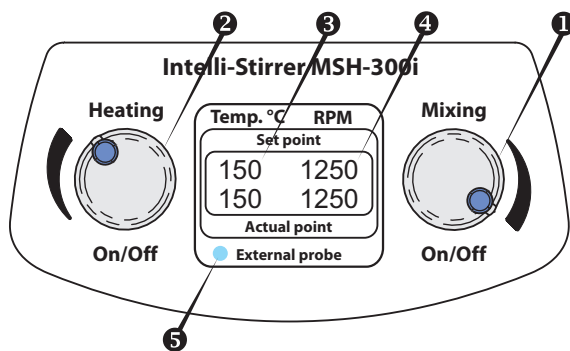

Fig.1 Control panel
- on the upper line Set point: temperature mode indication (OFF) or previously set temperature (fig.1/●) of a heating surface or liquid (if external probe is activated) and set speed of magnetic stirring element (fig.1/●) in the upper line;
- 4.5. Using the **Heating** knob (Fig. 1/②) switch On and adjust the temperature to the necessary level (in range from 30°C to 330 °C).
- 4.6. Connect the external probe to the unit via K type connector located on the rear side of the unit. External probe lamp indicator lights up on the control panel (fig.1/⑤), now the temperature control proceed via external probe.
Using the **Heating** knob (Fig. 1/②) switch On and adjust necessary liquid temperature (in range from 20°C to 150 °C).
**Caution!** The flashing lamp indicator (Fig.1/⑤) show that external probe is not dipped into the liquid and the plate temperature achieves and maintains 340°C temp. This can lead to an emergency situation, dip the external probe into liquid or switch off the unit.
- 4.8. Using the **Mixing** knob (Fig. 1/①) switch On and adjust the speed to the necessary level (100 - 1250 RPM).